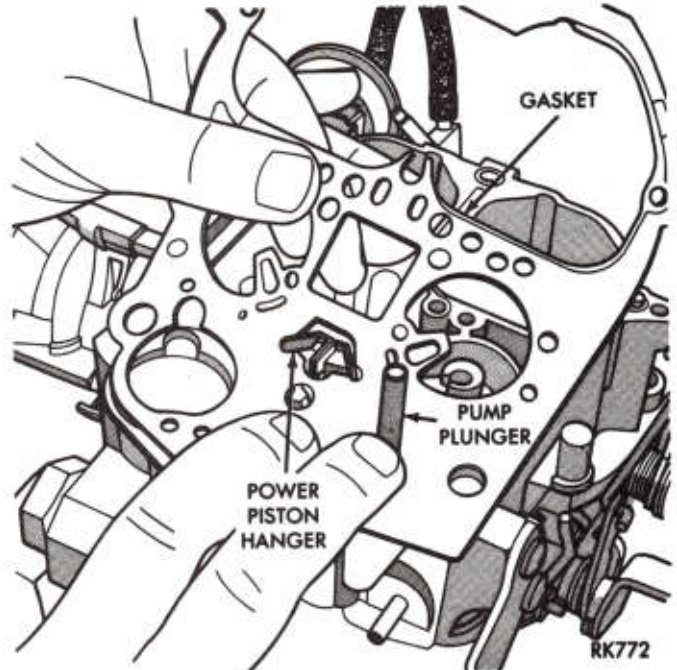

Fig. 16—Removing Air Horn Gasket
- (1) Remove air horn gasket by lifting it off locating pins and lifting tab of gasket from under the power piston hanger. Use care not to damage the metering rods or springs. Remove and discard gasket (Fig. 16).